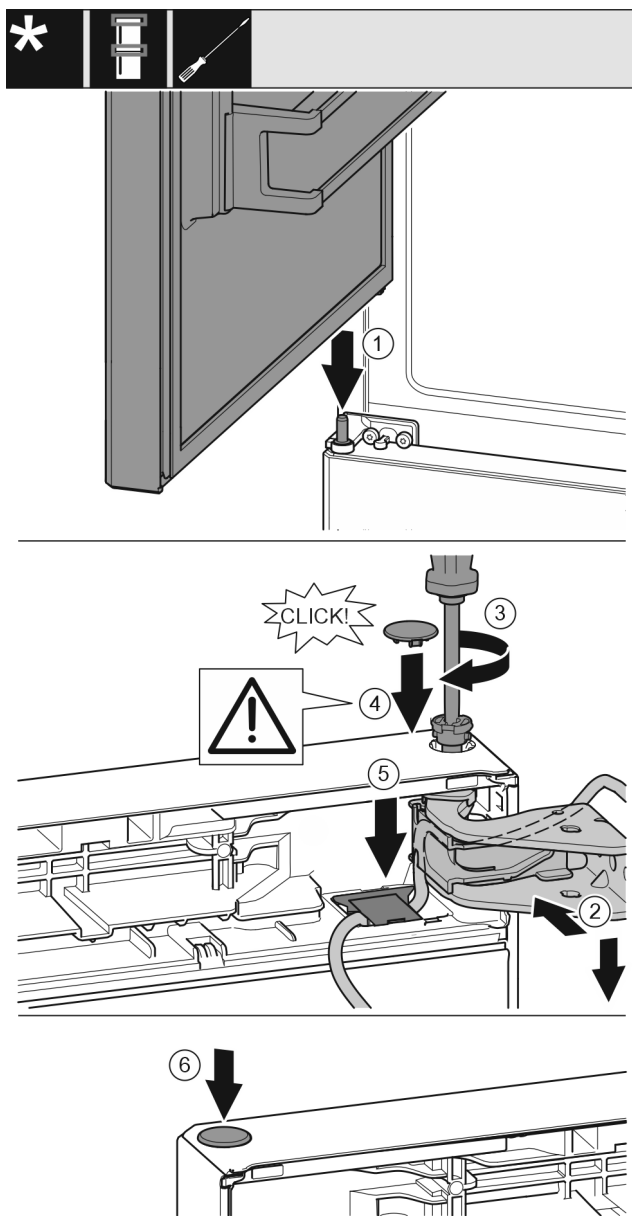

Fig. 42
- Position to top door onto the center bearing pin Fig. 42 (1).
- Align the top of the door with opening in the bearing bracket. Fig. 42 (2)
- Insert the pin Fig. 42 (3) and tighten it with the screwdriver.
- Mount the safety cover Fig. 42 (4) to protect the door: Insert the safety cover and check whether it is positioned on the door. If so, insert the pin completely.
- Insert the cover Fig. 42 (5) and press it down until it snaps down.
- Insert the plug Fig. 42 (6).